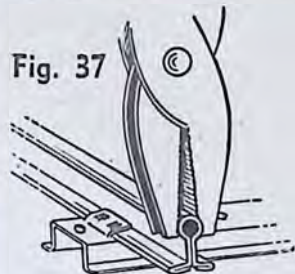

Fig. 37
**TRACK.** After the track has been taken apart a few times, the openings in the rails become enlarged, causing the pins to fit loosely. To insure tight connections and proper electrical contacts, reduce the pin openings by slightly pinching the rail ends with pliers as shown in Fig. 37.